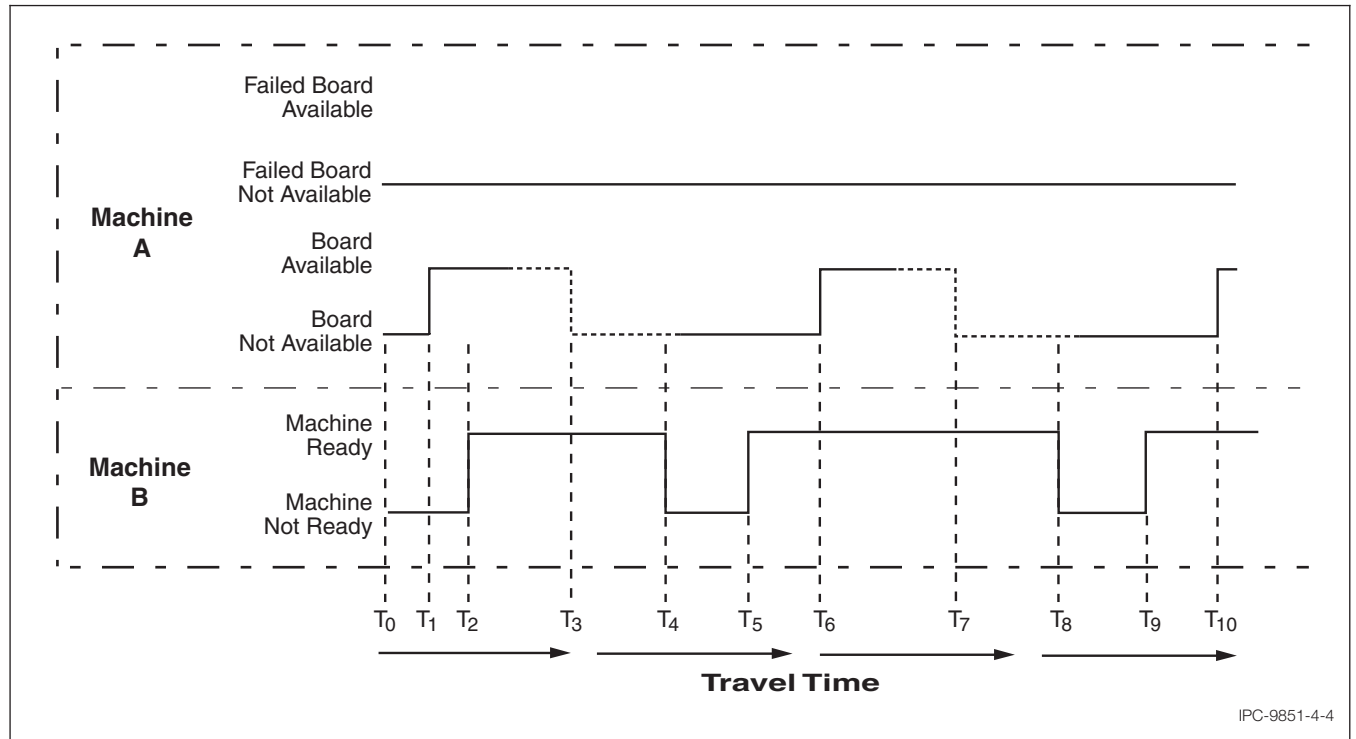

Figure 4-4 Timing Logic Diagram for Normal Transfer
4.3 Interface Signal Logic The electrical interface signal sequence is shown in Figure 4-4, and may be obtained using an optical isolator or a relay. The minimum requirements are to switch 30 Vdc, 10 mA. At 10 mA, the output “LOW” **shall not** exceed 0.8 Vdc. The logic for normal board transfer is described in Tables 4-2 and 4-3 and is shown in Figure 4-4.